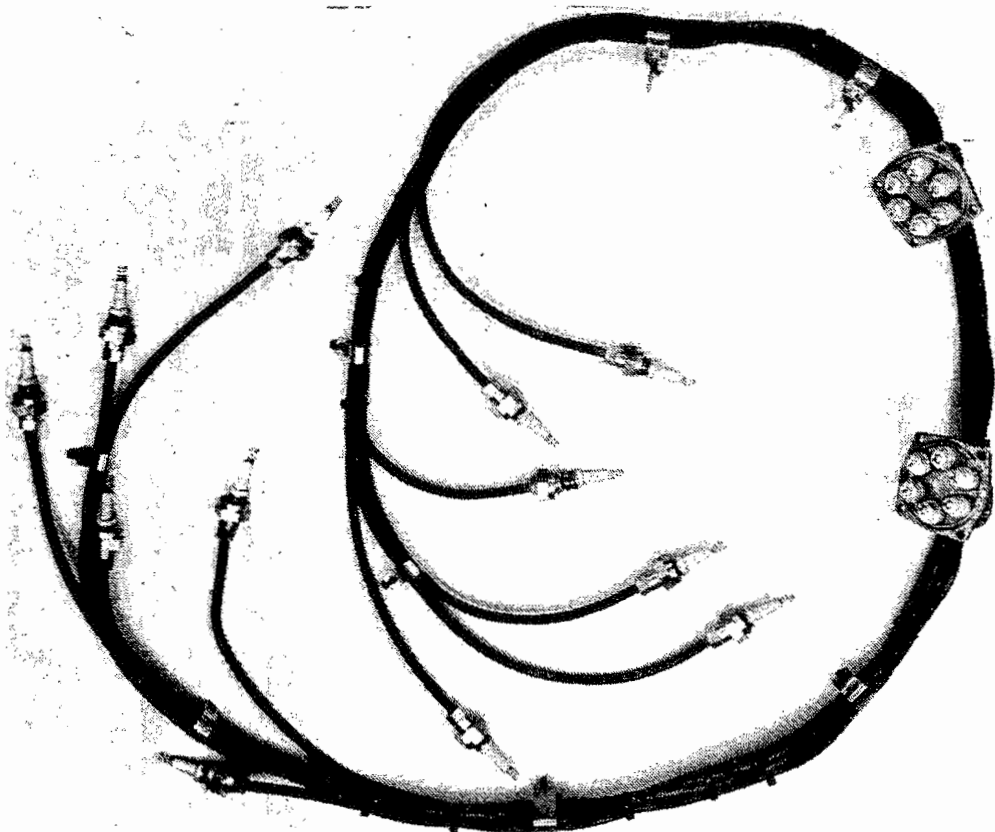

FIGURE 201: CUSTOM DRESSED HARNESS
- (1) Custom Dressed: Magneto and spark plug ends pre-assembled, all clamps and ties dressed. See Figure 201.